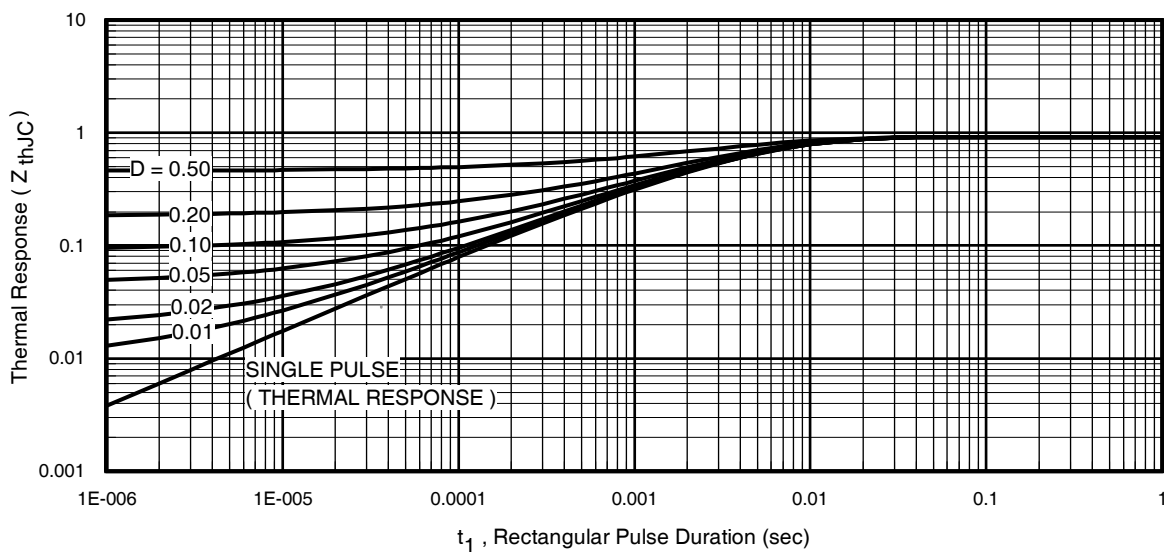
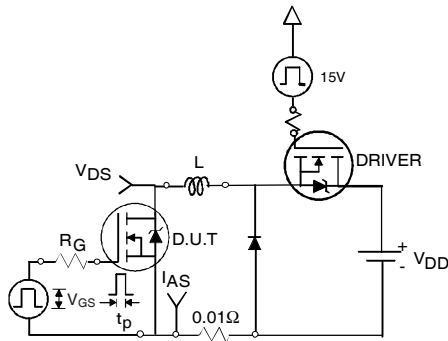

Fig 11. Maximum Effective Transient Thermal Impedance, Junction-to-Case
Fig 12a. Unclamped Inductive Test Circuit
- ① Repetitive rating; pulse width limited by max. junction temperature. (See fig. 11).
- ② Limited by T_{Jmax} , starting $T_J = 25^\circ\text{C}$, $L = 0.27\text{mH}$, $R_G = 25\Omega$, $I_{AS} = 35A$, $V_{GS} = 10V$. Part not recommended for use above this value.
- ③ $I_{SD} \leq 35A$, $di/dt \leq 380A/\mu s$, $V_{DD} \leq V_{(BR)DSS}$, $T_J \leq 175^\circ\text{C}$.
- ④ Pulse width $\leq 1.0\text{ms}$; duty cycle $\leq 2\%$.
- ⑤ $C_{oss\text{ eff.}}$ is a fixed capacitance that gives the same charging time as C_{oss} while V_{DS} is rising from 0 to 80% V_{DSS} .
- ⑥ Limited by T_{Jmax} , see Fig.12a, 12b, 15, 16 for typical repetitive avalanche performance.
- ⑦ This value determined from sample failure population. 100% tested to this value in production.
- ⑧ This is applied to D²Pak, when mounted on 1" square PCB (FR-4 or G-10 Material). For recommended footprint and soldering techniques refer to application note #AN-994.
3. Equation below based on circuit and waveforms shown in Figures 12a, 12b.
$Z_{thJC}(D, t_{av})$ = Transient thermal resistance, see figure 11)